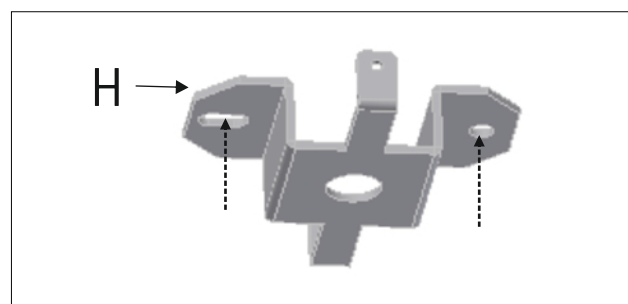

Figure 8
8 - Place the mounting bracket (H) on the ceiling and drill the holes to secure the bracket. Don't install the mounting bracket yet. Figure 8.